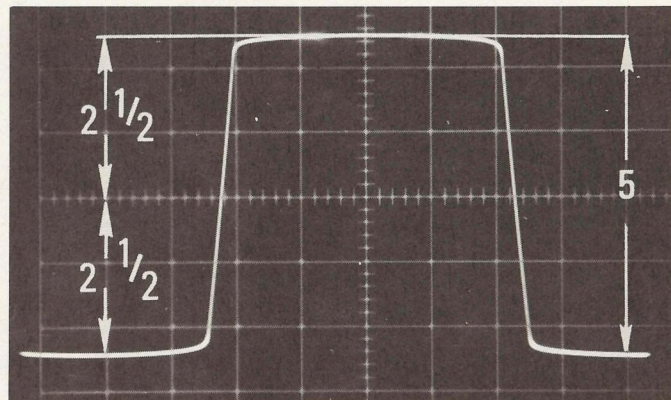

Fig. 18. Centering waveform for rise time measurement.
3. Use the TRACE POSITION and HORIZONTAL POSITION controls to center the waveform on the major vertical grid line, so that it is exactly  $2\frac{1}{2}$  divisions above and below the major horizontal grid line, as shown in Fig. 18.